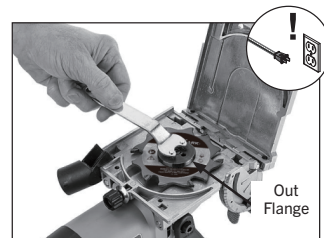

Fig. 21. Removing blade with spanner wrench
5. Press spindle lock button (see Controls & Components on Page 10) and use spanner wrench to turn outer flange until spindle lock engages spindle (see Figure 21).